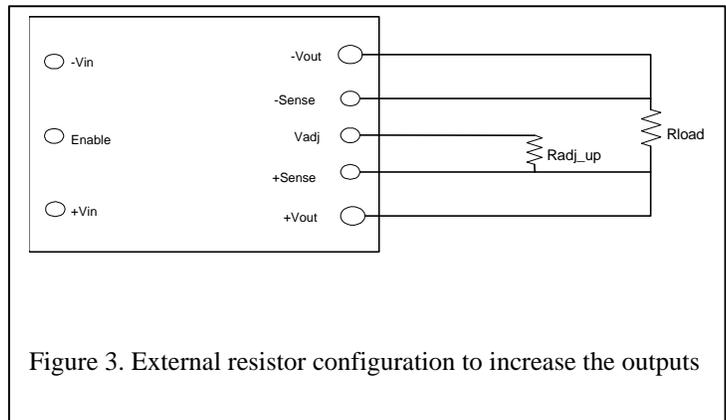

Figure 3. External resistor configuration to increase the outputs
8. Refer to Equation (1) and (2) and Figures 3 and 4 for the Output Trim Adjust configuration.